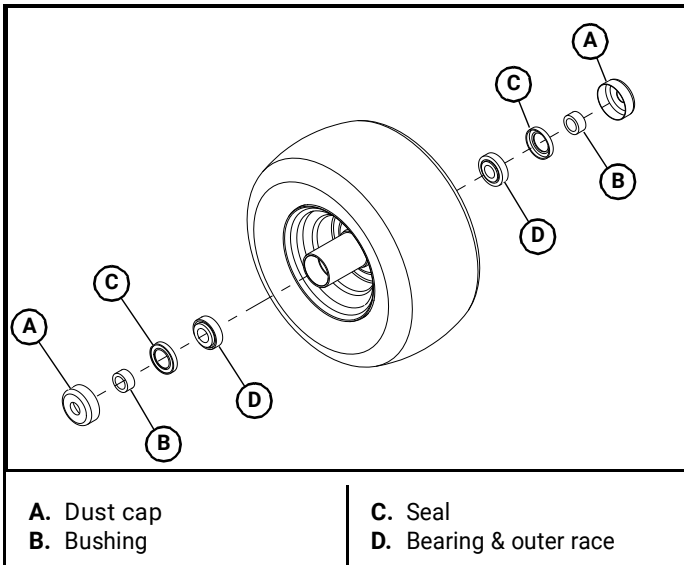

Figure 4-28
4. Remove the dust caps and bushings from the wheel housing. Retain these parts. Figure 4-28
5. Remove and discard the seals. Figure 4-28
6. Remove and discard the tapered roller bearings and outer bearing races. Figure 4-28